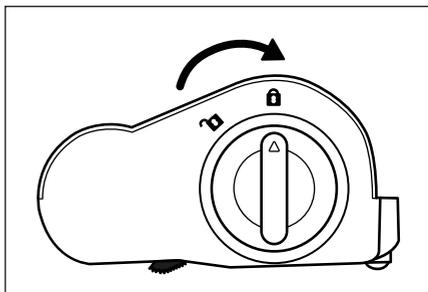

Fig. 29
- 5) Insert the rotary brush **20** into the floor brush **21** and turn the rotary brush release **19** in the direction of the symbol  (close) (see Fig. 29).